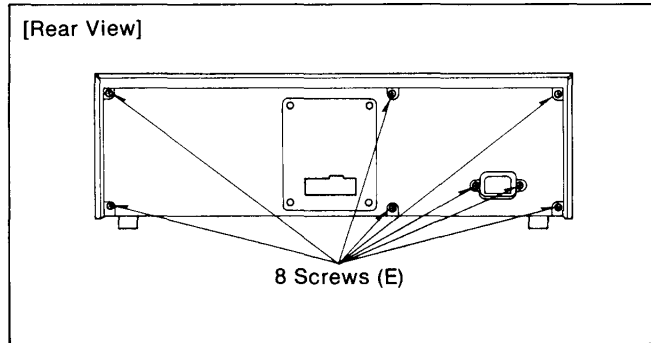

Figure D6
1. Unscrew the 8 screws (E) on the Rear Panel (Figure D6).